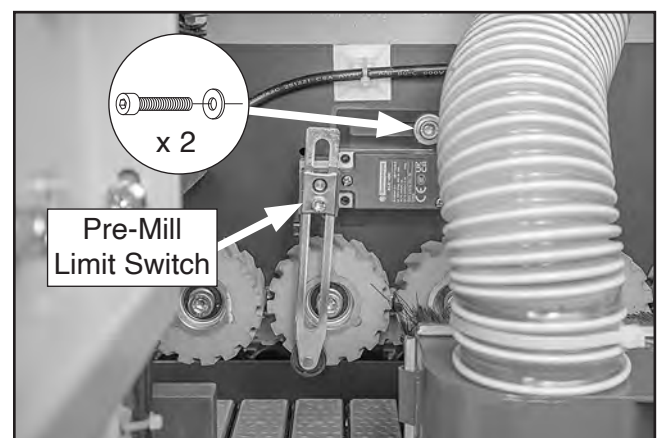

Figure 129. Location of pre-mill limit switch and adjustment screws.
2. Loosen (2) adjustment screws shown in **Figure 129**.